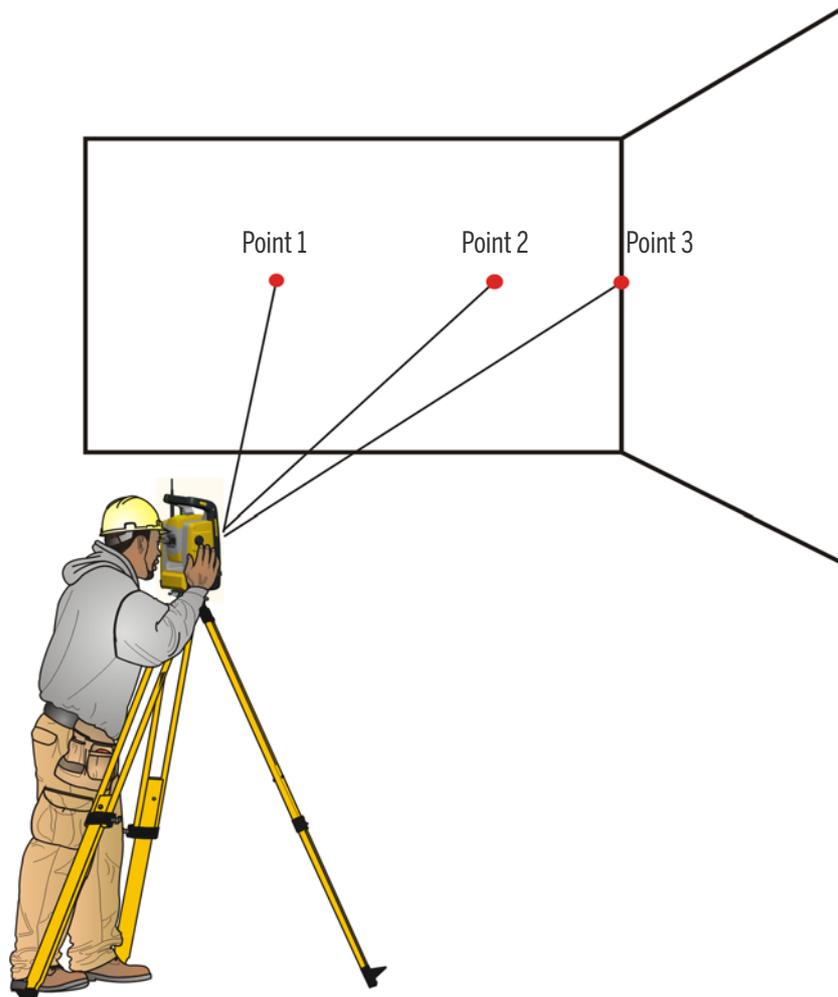

Figure 4.25 Offset measurement
2. Aim the Trimble SPSx20 Total Station at the corner to store the correct horizontal and vertical angle. See Figure 4.25